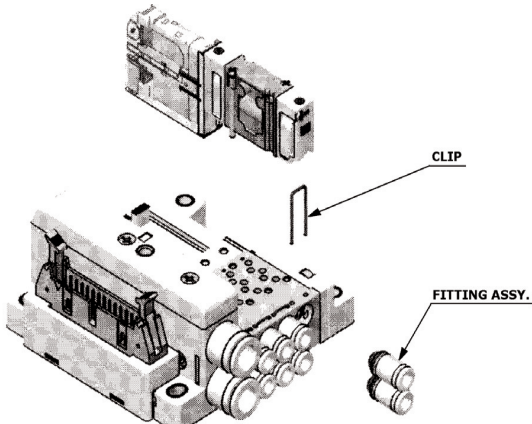

Figure 11
- Remove clip (see Figure 11) using a flat bladed screwdriver.